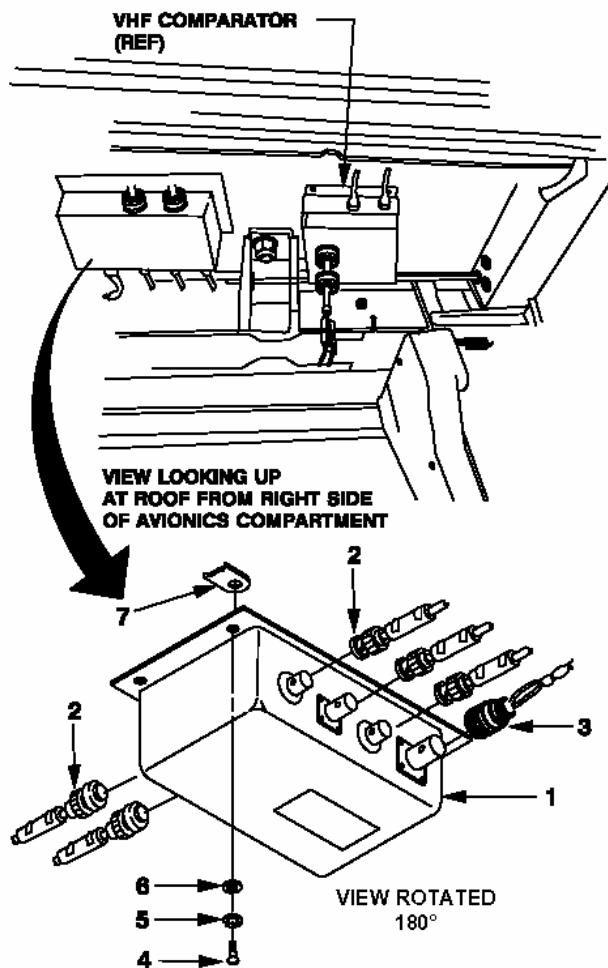

Figure 13
m. Remove FM Antenna Coupler (See Figure 13.) (CDS2 aircraft)
(1) Disconnect five coax connectors (2) from antenna coupler (1).
(2) Disconnect electrical connector (3) from antenna coupler (1).
(3) Retain and secure electrical connector.
(4) Support antenna coupler (1) and remove four screws (4), lockwasher (5), and washers (6).
(5) Remove antenna coupler (1) from helicopter.
(6) Remove the three coax cables (2ARC186-34A, -35A, and -36A) between coupler and comparator.
(7) Attach 2304Z2P5 cable connector removed from comparator to 2304Z3P2 cable connector removed from coupler.